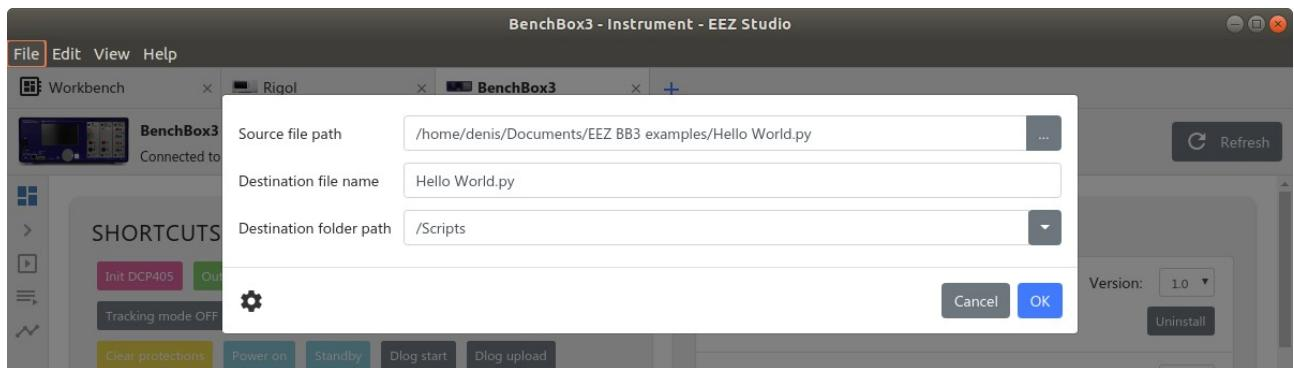

Fig. 27: File transfer using EEZ Studio Send File option
*Hello world.py* and *Hello world.res* files will now need to be downloaded to BB3 in the *Scripts* folder. We can also use EEZ Studio for this, but its ESW part used to communicate with SCPI instruments such as BB3. The procedure is the same as in the case of the Upgrade peripheral module firmware using GUI on BB3 section in Chapter 13. The download parameters of the MicroPython script are shown in Fig. 27. The same will need to be done for the resource file (*Hello world.res* ).